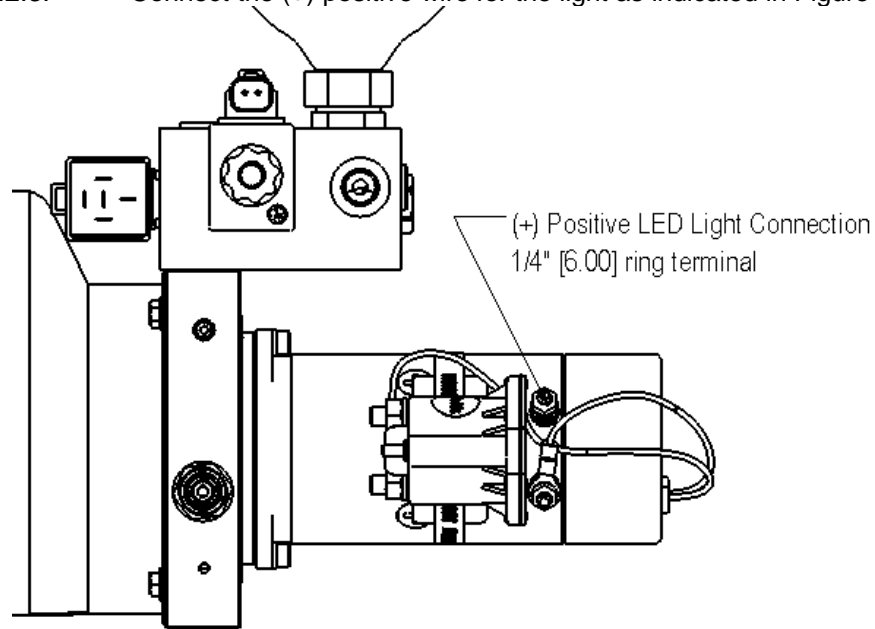

Figure 5
5.3.8.2.3. Connect the (+) positive wire for the light as indicated in Figure 5.